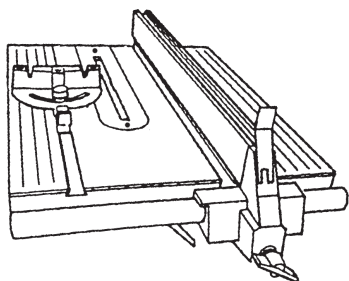

Figure 79
1. Place the Miter Gauge in the Left Slot of the Worktable on the infeed side, as shown in Figure 79.